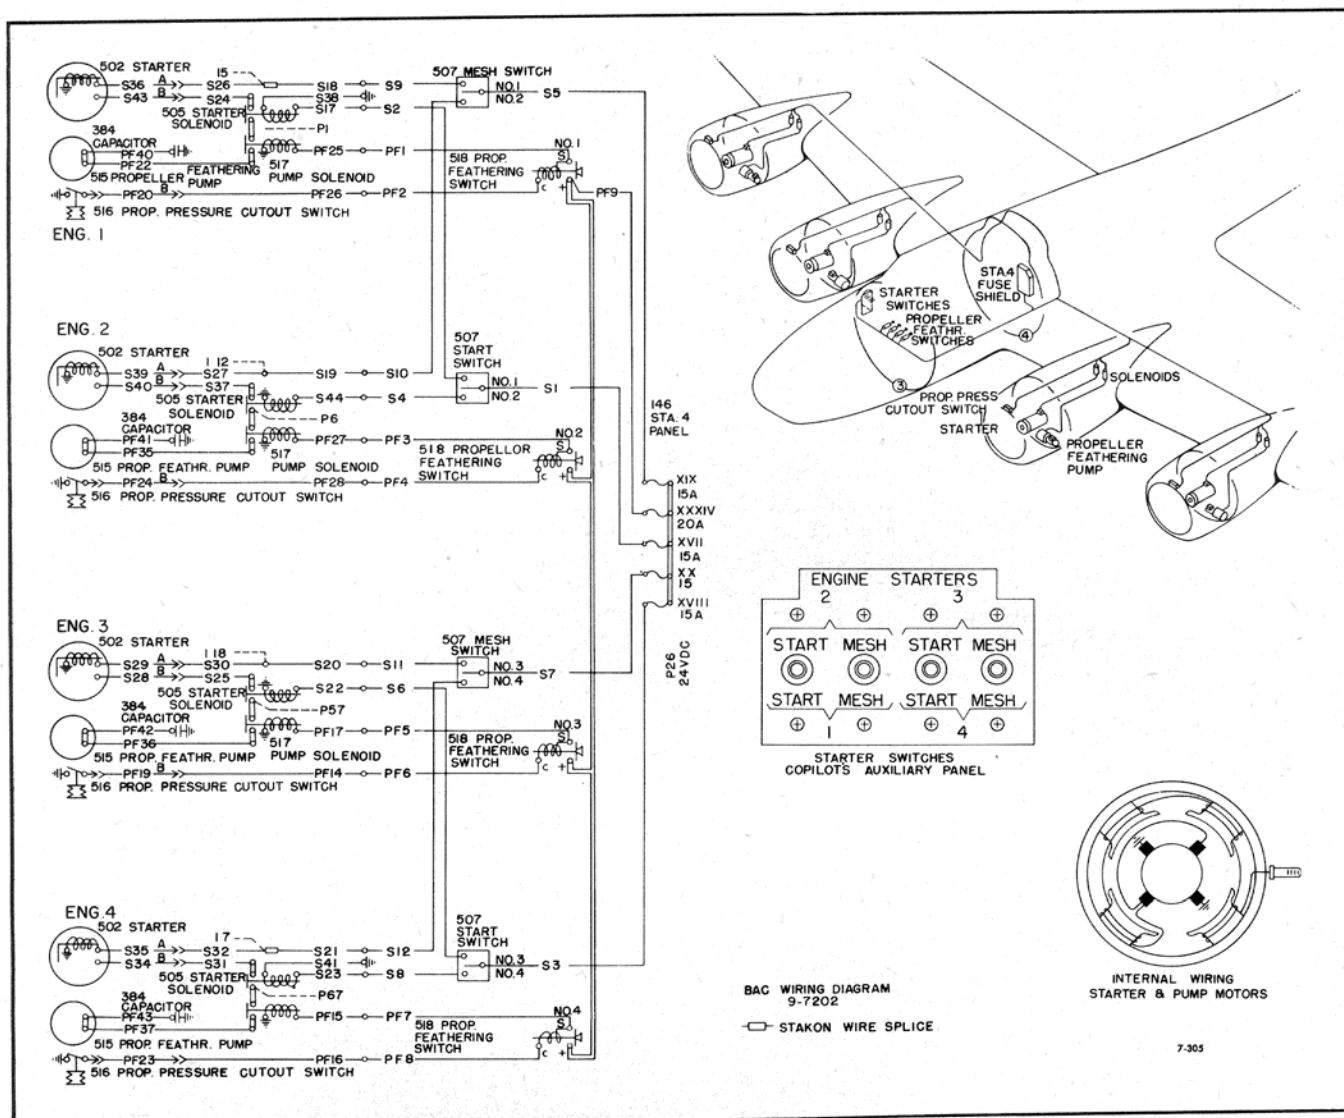

Figure 178—Starter and Propeller Feathering Circuit
- a. Wiring not properly connected. See figure 178.